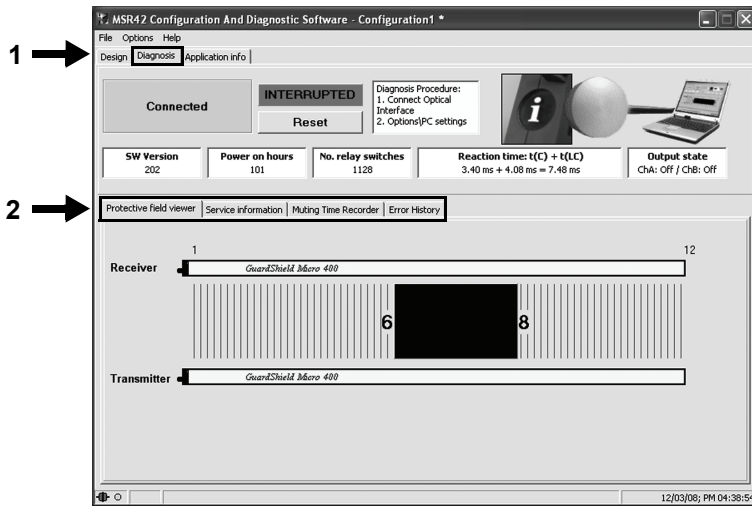

Figure 28: Example of a protective field interruption
3. Select the “Diagnosis” tab (1, Figure 28)
The program immediately detects the MSR42 and displays the transmitted data. Three different functions may be selected (2, Figure 28):
This function graphically shows the interrupted area of the GuardShield Micro 400 light curtain protective field (Figure 28). The numbers displayed in this window represent the first and the last interrupted beams. No definite statement can be made with regards to the status of the beams between these two beams, since this information is not transmitted to the MSR42 Configuration and Diagnostic Software.